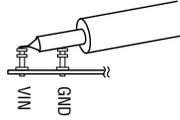

Figure 2. Measuring Input or Output Ripple
**NOTE:** When measuring the input or output voltage ripple, care must be taken to avoid a long ground lead on the oscilloscope probe. Measure the output (or input) voltage ripple by touching the probe tip and probe ground directly across the VOUT/LED+ (E3) and GND (E9) terminals. See Figure 2 for proper scope probe measurement technique.